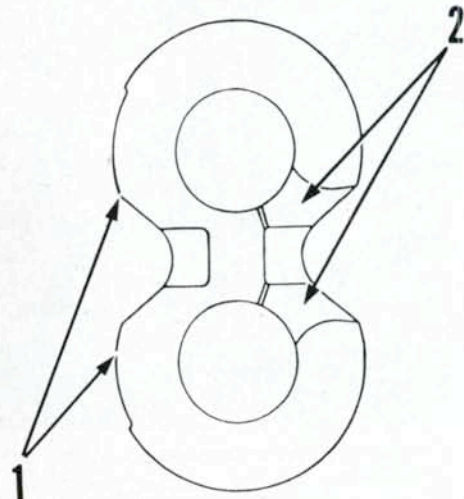

Fig. 281—Make certain that relief groove side (1) of bearings is toward outlet side of pump and that recess (2) in each bearing is against face of pump gears.
When reassembling pump, lightly lubricate each component with a high temperature grease to protect pump from heat damage during initial start up. Place front and rear bearings over pump gears making sure that recess (2—Fig. 281) in each bearing is against gear faces and that relief grooves (1) will be on outlet side of pump. Install gears and bearings in pump body. Pack cavity around shaft seal with high temperature grease. Install new seals and pressure